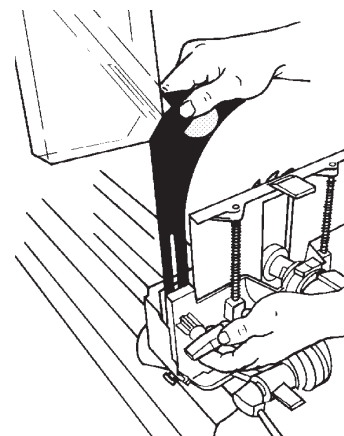

Figure B-108
- 82. Loosen the guard lock knob (210) and insert the upper saw guard's riving knife (199) between the guard (213) and the lock plate (208), as demonstrated in Figure B-108.